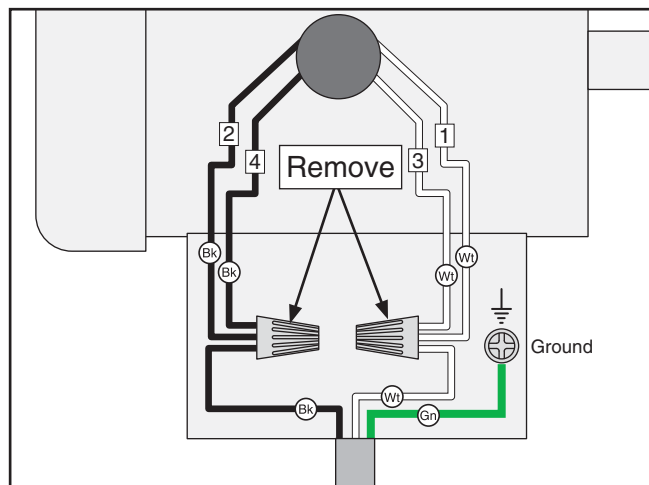

Figure 3. Location of wire nuts to be removed.
3. Open the motor junction box, then remove the wire nuts indicated in **Figure 3**.